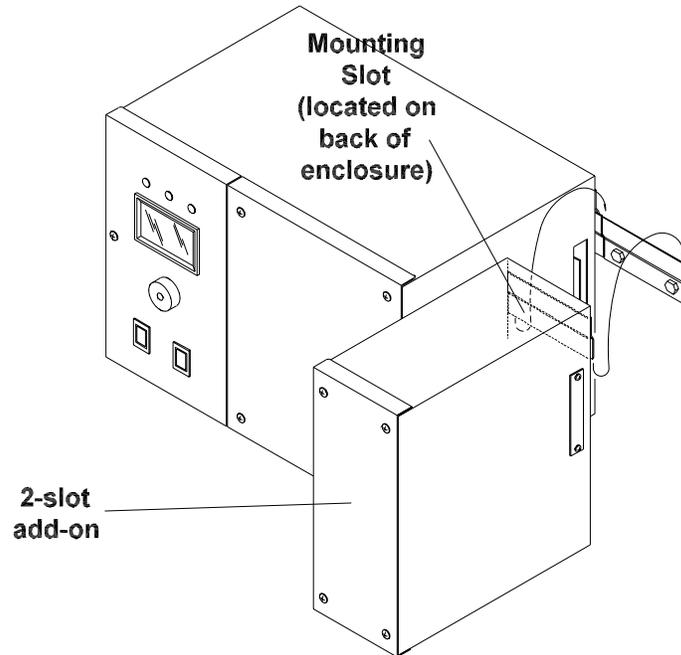

Figure 2 Hanging the 2-slot add-on on the Interlocking Rail
Step 5: Hang the 2-slot add-on on the second rail as shown in *figure 2*.